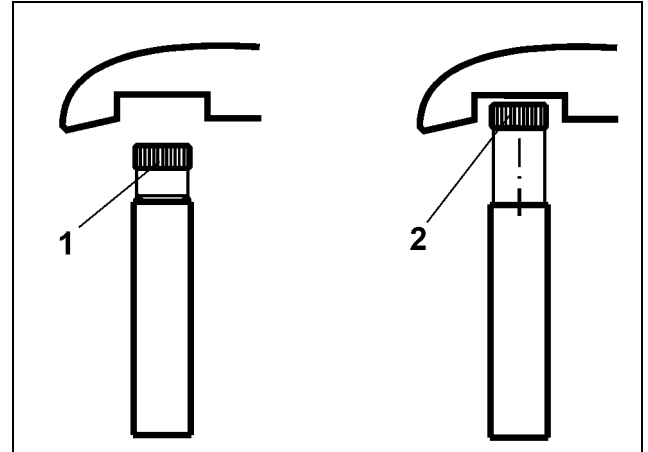

Fig. 60
- In the position “metering wheel on” (“Särad ein”) the thumb bolt (Fig. 60/1) is driven in till the stop.
- In Position “metering wheel off” (“Särad aus”) the thumb bolt (Fig. 60/1) has been driven out till the stop (Fig. 60/2).
Never tighten thumb bolts too firmly or drive them too tightly to the stop (Fig. 60/2).